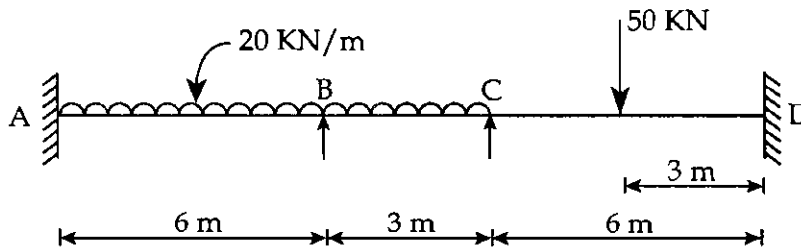

Figure 3
- (c) Analyse the continuous beam loaded as shown in Figure 3, by the slope deflection method. Support B sinks by 10 mm. Take $E = 2 \times 10^5 \text{ N/mm}^2$, $I = 16 \times 10^7 \text{ mm}^4$. Sketch the bending moment and shear force diagrams. 10